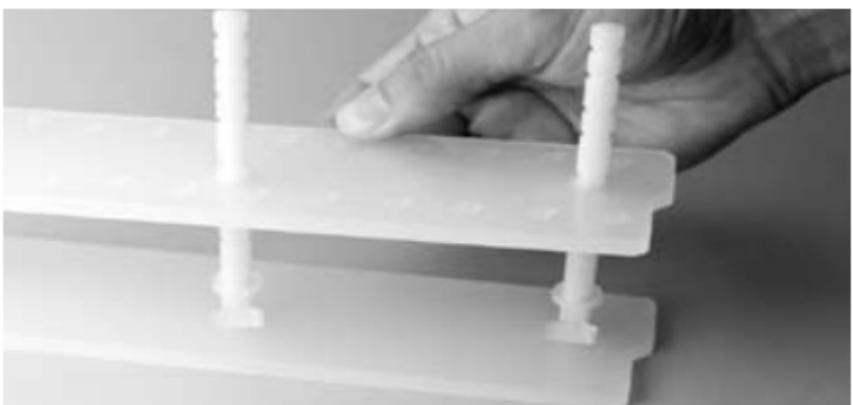

figure 6
- B. Slide the dimpled support plate onto the posts by aligning the three holes in the plate with attachment posts. The indentation on the side of the support plate must match the indentation of the base (*figure 6*).